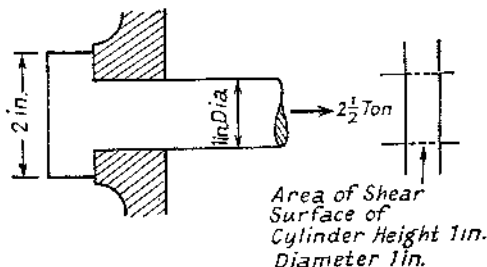

Fig. 79
(10) Fig. 79 shows a tie rod subjected to a tensile load of  $2\frac{1}{2}$  tons: (a) determine the tensile stress in the shank; (b) determine the average compressive stress over the underside of the head; (c) make a sketch to indicate the surface across which there is shearing stress in the head, and calculate the average value of this stress. (You may assume  $\frac{1}{\pi} = 0.32$ .)